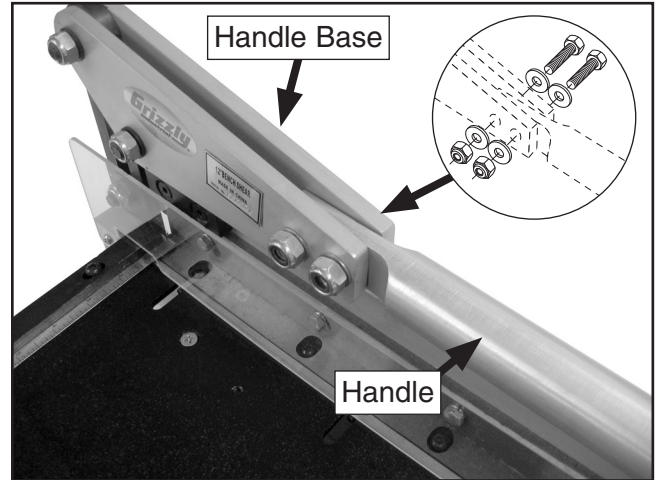

Figure 4. Handle attachment.
2. Attach the handle by removing the pre-installed hex bolts, flat washers, and lock nuts, aligning the holes in the handle with those in the handle base, then securing it with the just-removed hex bolts, flat washers, and lock nuts (Figure 4).